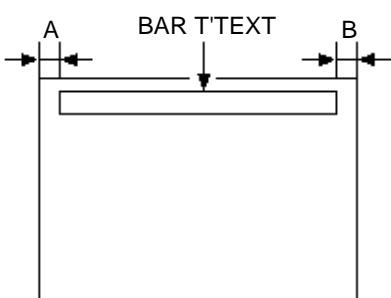

Fig. 2-3
4. Press the VOL. +/- button on the remote control until the difference of A and B becomes minimum. **(Refer to Fig. 2-3)**